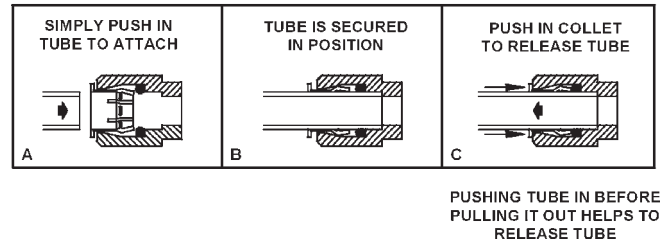

Figure 13 – Quick Connect Fittings
**Actuation of Quick Connect Water Fittings:** Cooler is provided with lead-free connectors which utilize an o-ring water seal. To remove tubing from the fitting, relieve water pressure, push in on the gray collar while pulling on the tubing. (See Figure 13) To insert tubing, push tube straight into fitting until it reaches a positive stop (approximately 3/4").